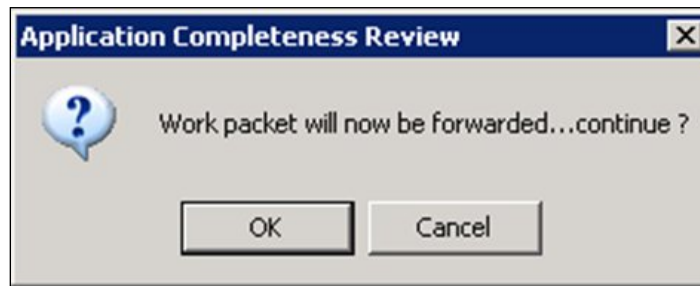

Figure 7-20: Forward Work Packet Dialog Box
- ii. Click the OK button if you wish to continue. The Forward Work Packet dialog box is displayed (Figure 7-20).